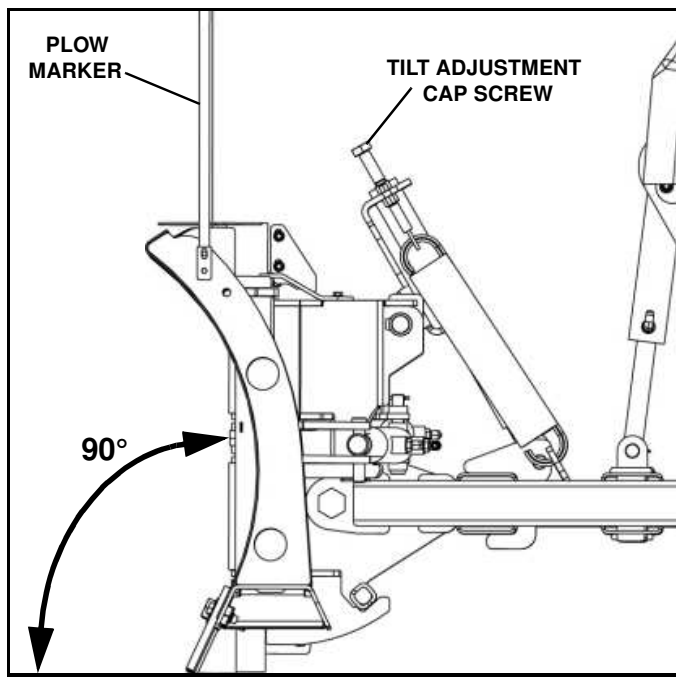

Figure 1-25
29. This plow is equipped with the MaxAdjust™ System (Patent pending). Adjust capscrew as required to position center of moldboard at a 90° angle to the ground. (See Figure 1-25).
30. Attach a plow marker to each wing as shown and secure using 5/16 x1" cap screws and locknuts. (See Figure 1-25).